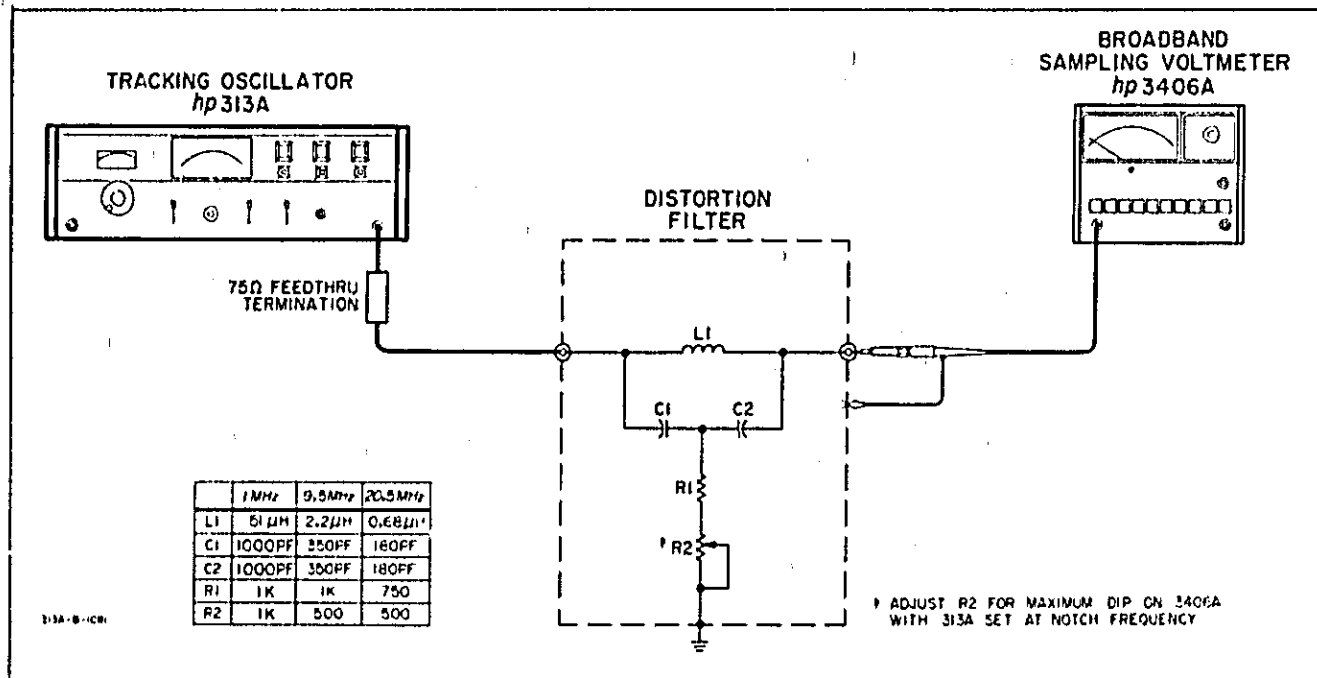

Figure 5-5. Harmonic Distortion Test Setup
- Connect the 313A, 3406A, 1 MHz Distortion Filter and 75 ohm feedthru termination as shown in Figure 5-5.
- Substitute the 9.5 MHz Distortion Filter for the 1 MHz Distortion Filter in Figure 5-5.
- Replace the 9.5 MHz Distortion Filter in Figure 5-5 with the 20.5 MHz Distortion Filter.